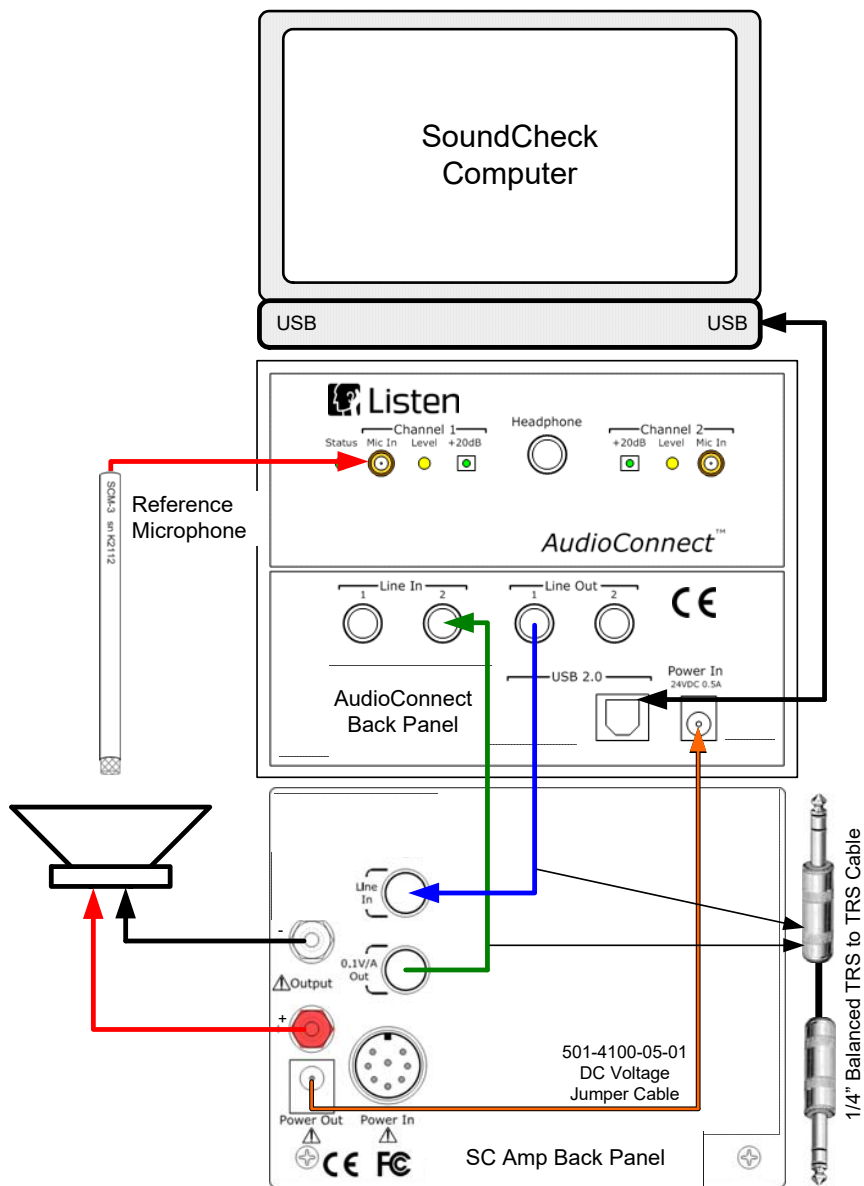

Figure 4-6: Loudspeaker Test - Balanced Wiring
- SC Amp 0.1 V/A Impedance Interface Output to AudioConnect Input 2: **Balanced connection required** (See Figure 4-6)
Some instances may arise that require a single ended connection using a BNC or RCA connector. The diagram in Figure 4-6 shows preferred wiring methods using these connectors.